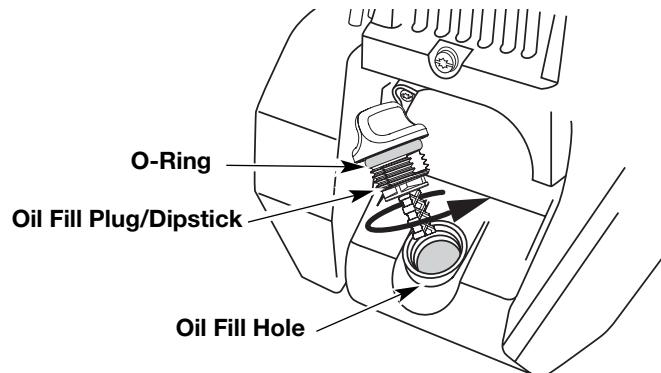

Fig. 24
1. Turn the knob counterclockwise to loosen (Fig. 24).
2. Press and hold the release button (Fig. 24).
6. If the level is low, add a small amount of oil to the oil fill hole and recheck (Fig. 24). Repeat this procedure until the oil level reaches the top of the dipstick.
NOTE: Make sure the O-ring is in place on the oil fill plug/dipstick when checking and changing the oil (Fig. 24).